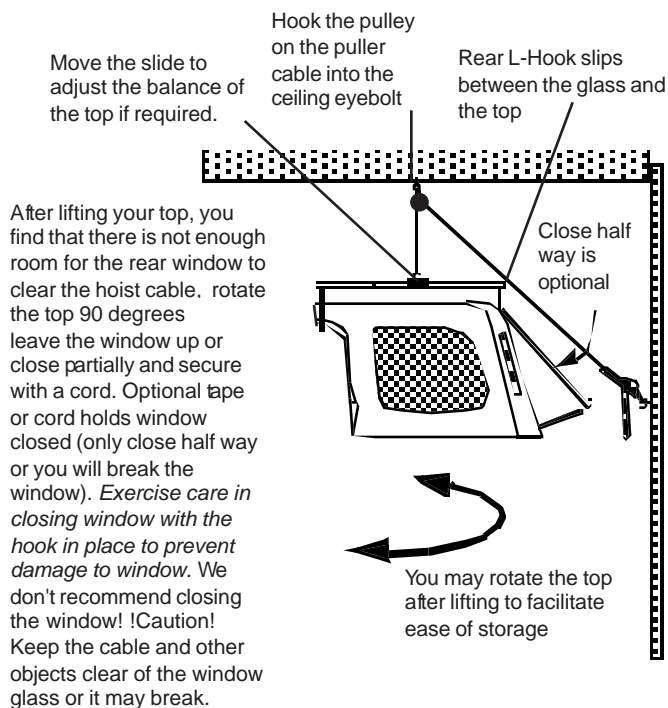

Figure 7. Mounting Connections
The rear hook on the Cable Puller (1) attaches to the wall mounted eye lag. The pulley and hook attach to the ceiling eye lag, and the Shorty Eye Bolt attaches to the Balance Slide (4). SEE Figure 7.